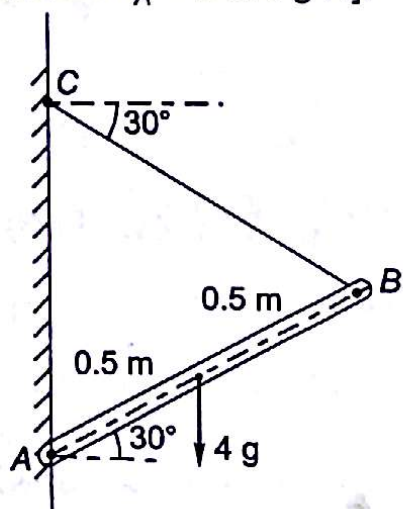

Fig. 3.47
3.1 A bar AB of mass 4 kg is hinged at A , and tied to a string at B . Draw the free body diagram of the bar and for equilibrium find reaction R_A and pull in string at B (Fig. 3.47).